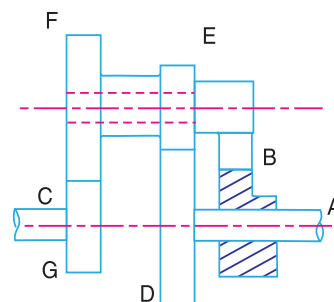

Fig. 13.45
16. The epicyclic gear train is shown in Fig. 13.45. The wheel D is held stationary by the shaft A and the arm B is rotated at 200 r.p.m. The wheels E (20 teeth) and F (40 teeth) are fixed together and rotate freely on the pin carried by the arm. The wheel G (30 teeth) is rigidly attached to the shaft C . Find the speed of shaft C stating the direction of rotation to that of B .